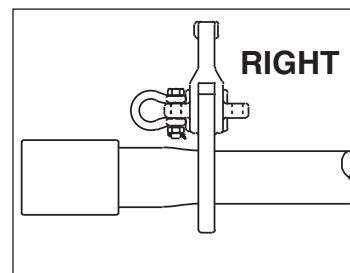
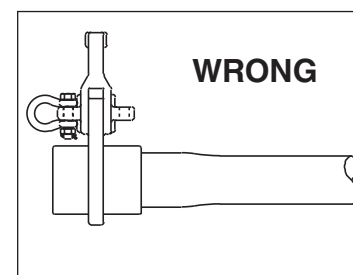

Figure 1
Figure 3
- The grab must be installed adjacent to the flared end of the tubing (see Figures 1 & 2). Do not attempt to attach the grab directly to the larger diameter flared end or the coupler (see Figure 3).